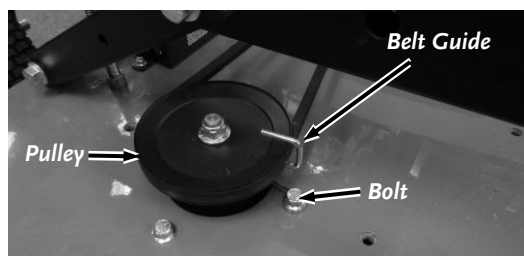

Figure 48
7. Loosen the Bolts securing the Belt Guides (**two for Pro 44TF and three for Pro XL60TF**) at the Blade Pulleys using a 9/16" Wrench (Figure 48). Rotate the Belt Guides away from the Pulleys.